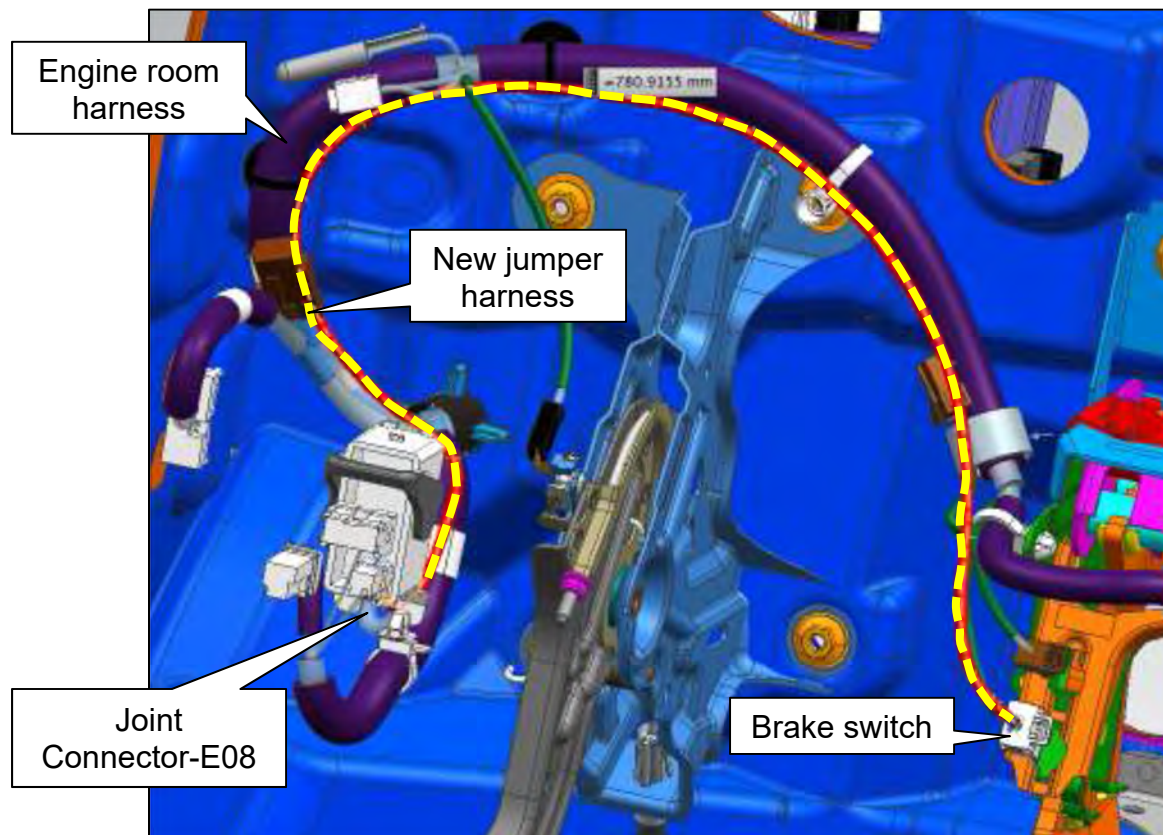

Figure 24
26. Route the new jumper harness along the engine room harness as shown in Figure 24.